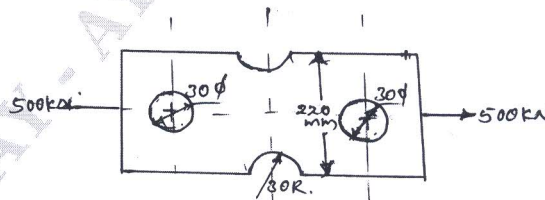

Fig. Q3 (b)
- b. A bar of rectangular section is subjected to an axial pull as shown in Fig. Q3 (b). Determine the thickness of plate, if the allowable stress in bar is 200 MPa. (10 Marks)